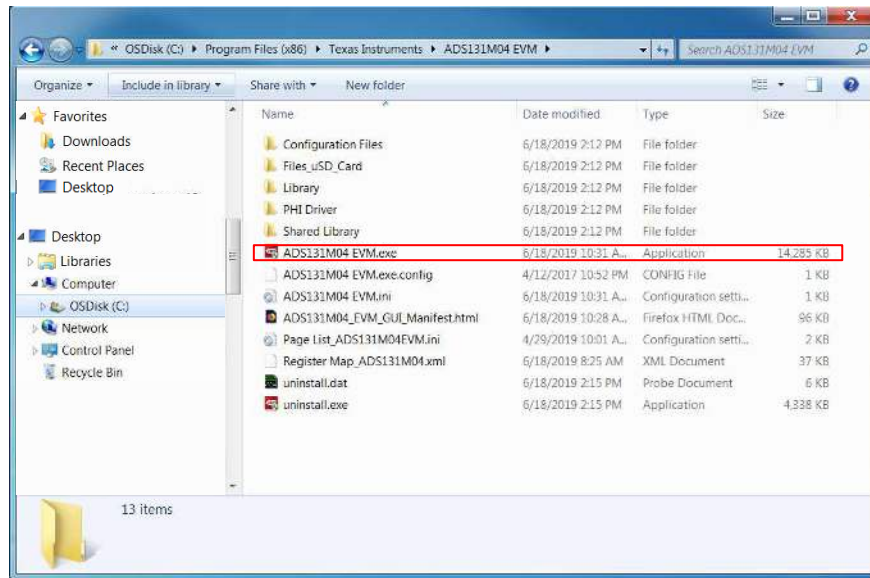

Figure 11. Launch the EVM GUI Software
3. Figure 11 shows how to launch the ADS131M04EVM GUI software.